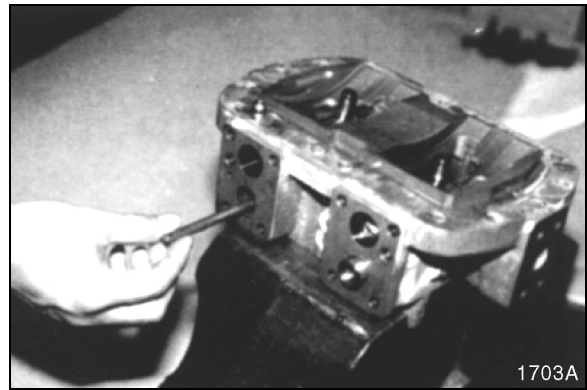

Figure 109
5. Insert rod with spring into main control body. See Figure 109.